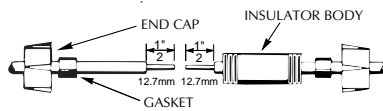

FIGURE 10
4. Unscrew plastic caps from insulators. Place a cap and a neoprene gasket sleeve on each wire end to be spliced (see Figure 10).
5. Slide insulator body onto one wire end (Fig. 10).